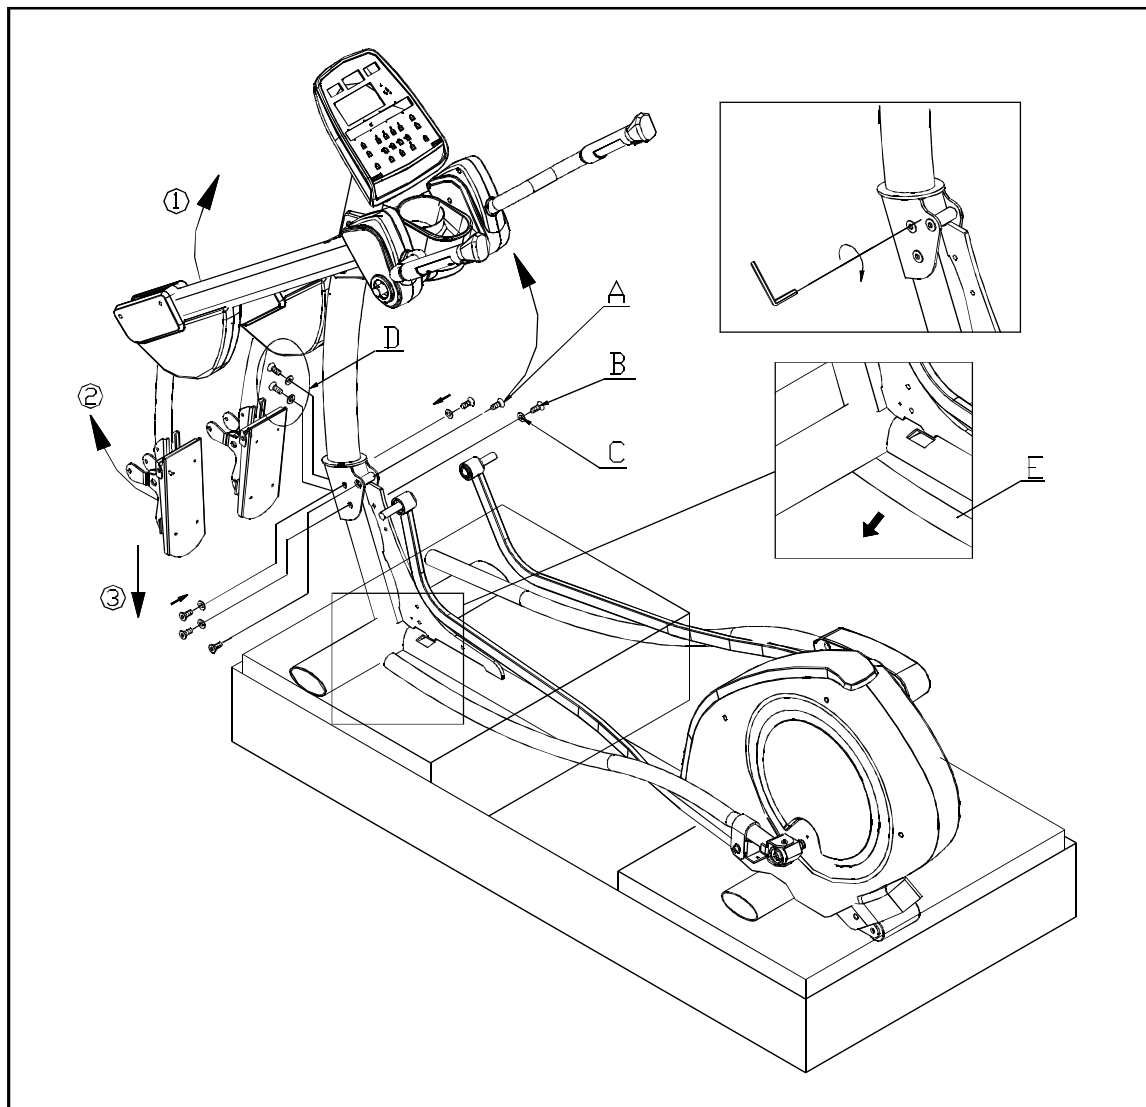

Fig.1
STEP 2. The screw A is loosely attached before assembly. Raise the main post or pedestal into position. Secure the pedestal hardware in sequence, first D, then A, B and C. (Please See Fig.1)